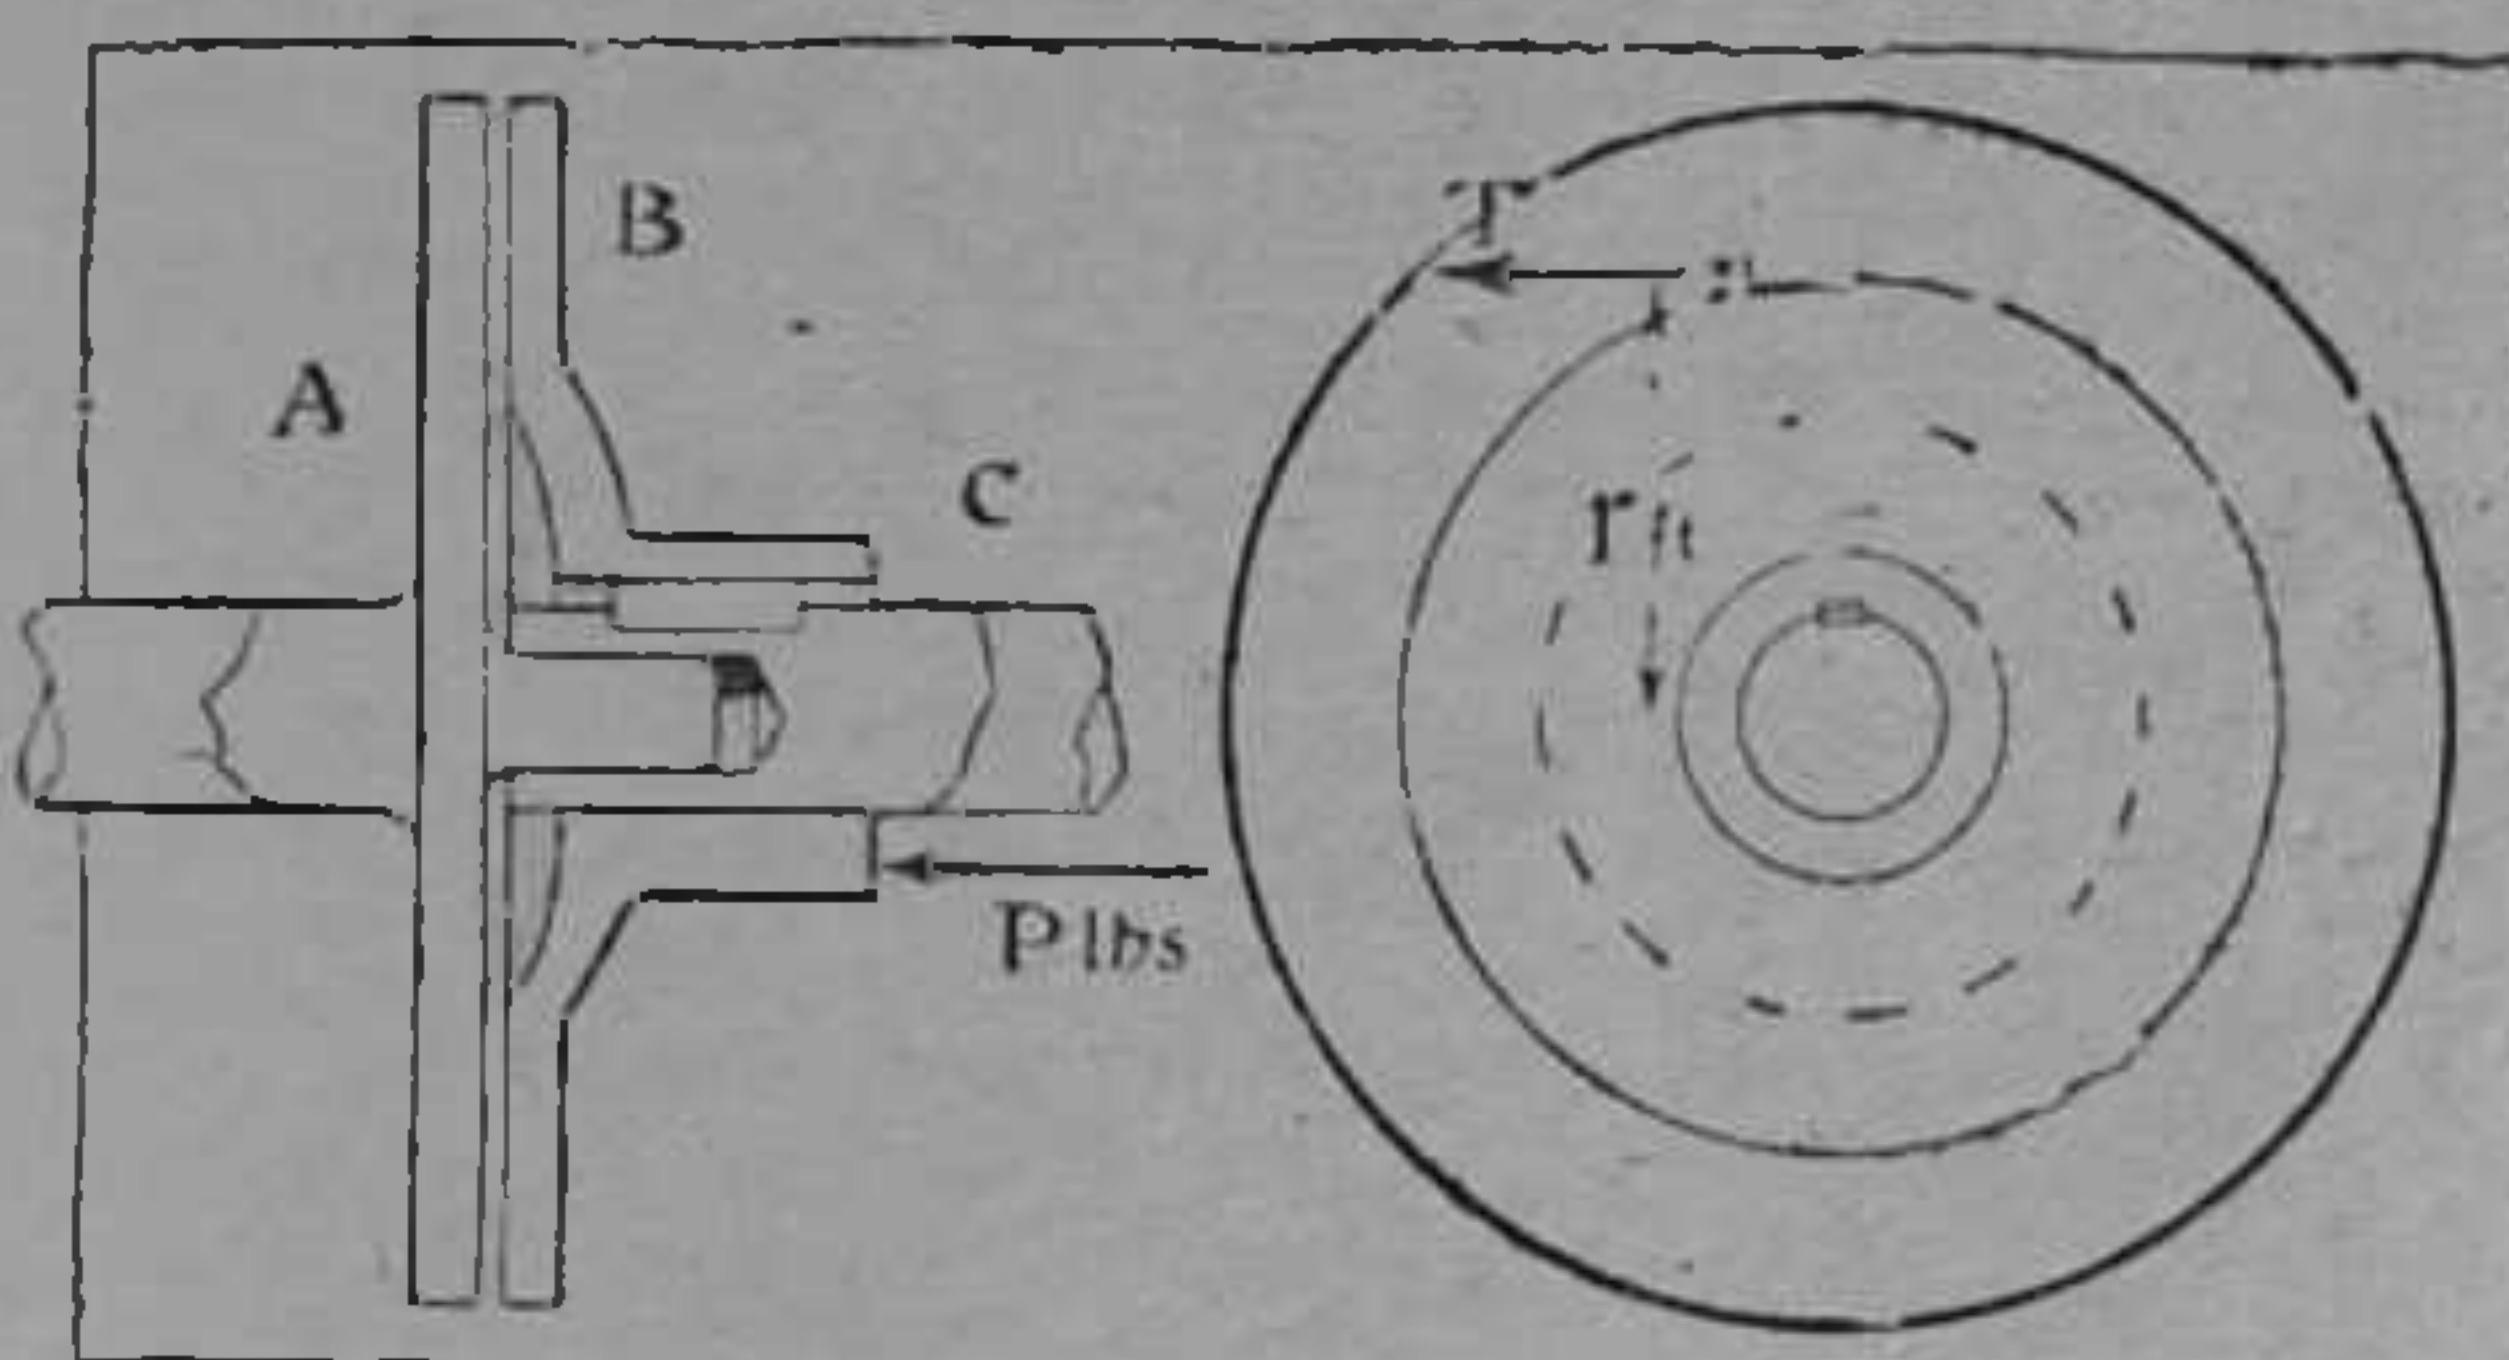

Fig. 1.—The simplest form of clutch.
plates or discs, as shown in Fig. 1, where A is fixed to the engine shaft and B is free to slide on the shaft (C), but must rotate with it, shaft (C) driving the rear wheel, either by belt, chain, or cardan shaft as the case may be. Now if the plates are pressed together so tightly that a frictional force of  $T$  lbs. is produced at the mean radius ( $R$  feet) of the frictional surfaces in contact, and the shaft (A) is running at  $N$  revolutions per minute, this elementary clutch will transmit
in relation to it. The spring pressure ( $P$ ) now acts on the outside of  $D$ , and forces it inwards, so nipping the driven plate ( $B$ ) between it and  $A$ . As the pressure ( $P$ ) now acts on two surfaces—namely, that between  $A$  and  $B$  and that between  $B$  and  $D$ —the force ( $T$ ) will be twice what it was previously, so that the clutch will transmit twice the horse-power of the simple clutch considered in Fig. 1 with the same spring pressure and at the same speed. It is obvious that the process of adding friction surfaces in this manner can be continued indefinitely, and at each addition the clutch will be able to transmit more horse-power, or alternatively can be made smaller for the same power. This is the process which has produced the familiar multi-plate clutch shown diagrammatically in Fig. 3. The most familiar type of all in car practice is the cone clutch, but it has practically disappeared from the motorcycle world, the only sample at present being that fitted to the Zenith countershaft model. The arrangement shown diagrammatically in Fig. 4 is probably familiar to all motorcyclists. More power can be transmitted by this type than by a simple clutch like Fig. 1 of the same diameter, owing to the wedge action due to the contact surfaces being at an angle to the axis. A cone clutch is, however, always on the bulky side, and cannot be made as light as would be desirable for a motorcycle.